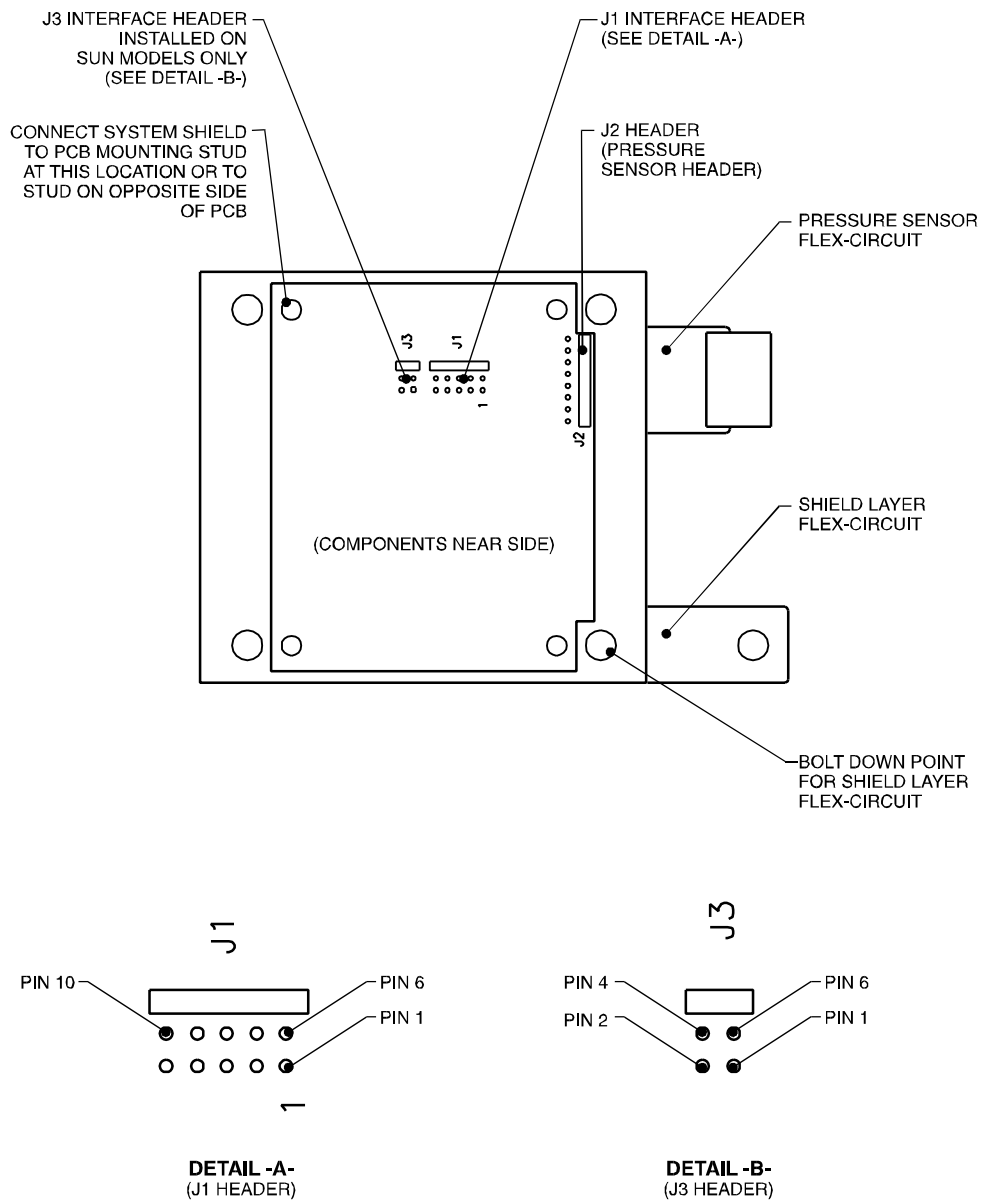

Figure 7.08
** See Figure 7.08 for details on connecting the cable shield
** See Figure 7.08 for details on connecting the system shield
The following table shows the pin-out of the J3 interface header. The J3 header is only installed on Sun-compatible DOMs. No header is installed at J1 for these models. Also shown are the connections for an 8-pin mini-DIN mouse-port connector. Three lines are needed for a Sun interface (see Figure 7.08 for details on the J3 pin-out convention).
* See Figure 7.08 for details on connecting the cable shield